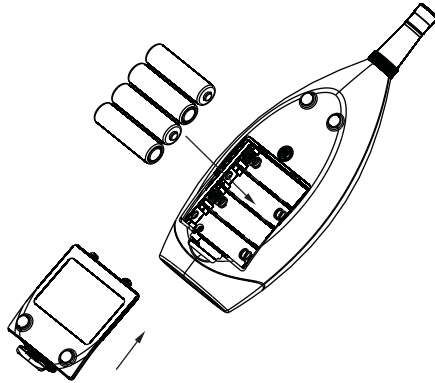

Figure 5
- Open the batter door insert the 4PCS 1.5V batteries into compartment properly, (note the battery polarity), as shown in figure 5: